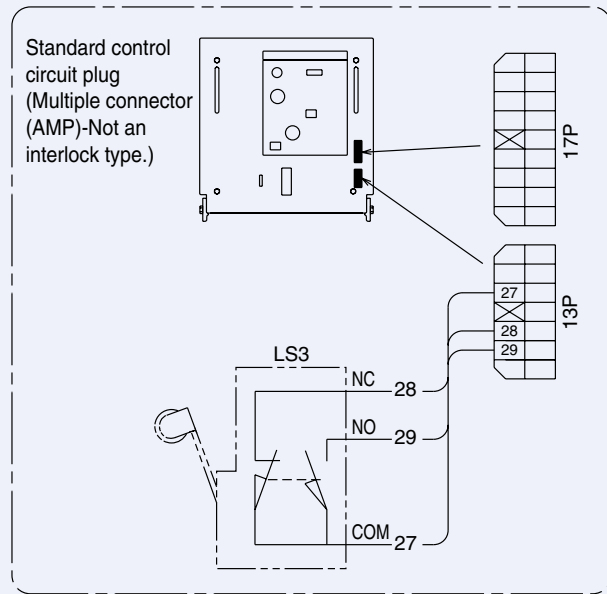

Fig. 34
2. In Fig. 34, closing spring is in discharged condition.